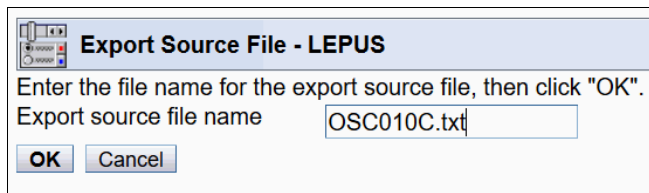

Figure 7-17 Export file: Specify file name
5. The task requests that a name for the file is written to the inserted media device. For our example, we enter `OSC010C.txt` (see Figure 7-17). Then, click **OK**.